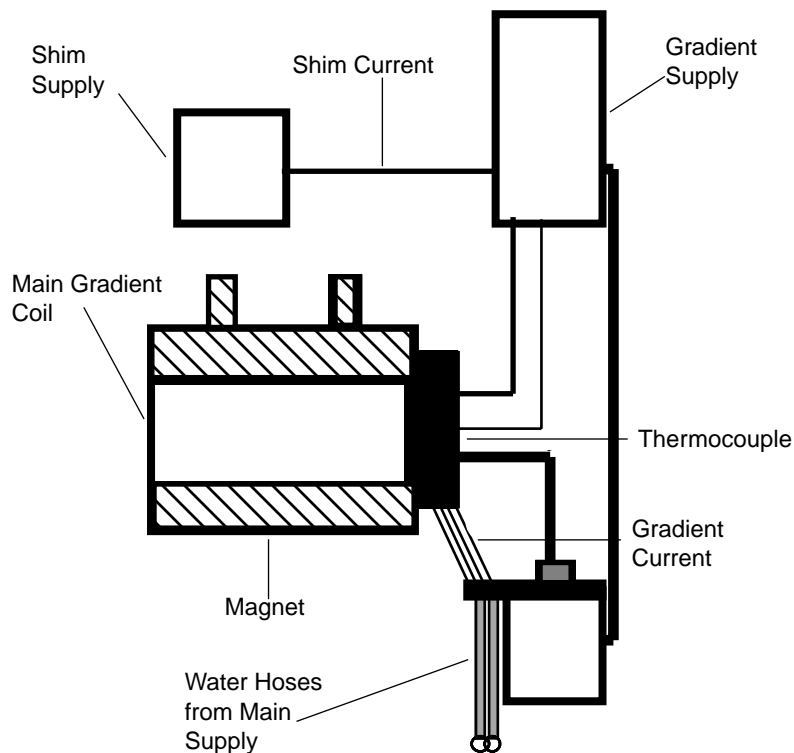

Figure 88. Connections for System Gradient Coil in Standard Configuration
1. The initial configuration of the hardware should be the same configuration shown in Figure 88, with the main gradient coil as the “active” coil. This is the standard configuration. Verify that the system is functional in the standard configuration before proceeding to install the HPAG auxiliary gradient coil.
If the connections are not made as shown in Figure 88, the system is in an incorrect configuration and might be damaged. In this situation, perform the following three SAFETY steps and then correct the cabling error so that the connections match those shown in Figure 88. The system can then be powered up.